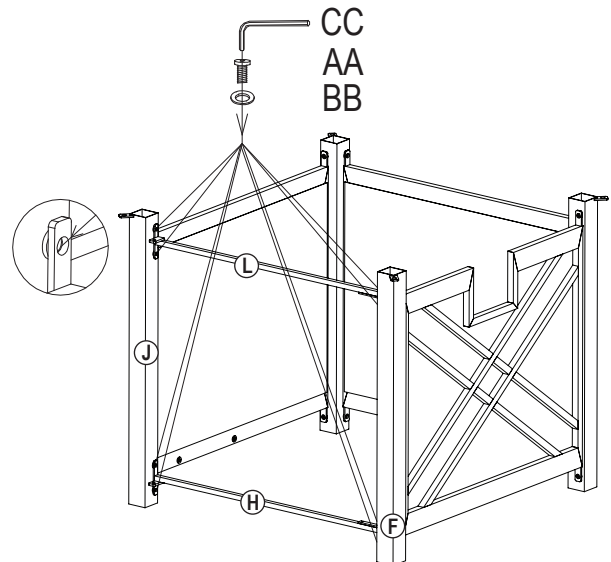

Figure 5
5. Attach upper beam (L) to front-left Leg (J) and front-right leg (F) with bolt (AA) and washer (BB) using hex screw Driver (CC). Attach bottom beam (L) to front-left leg (J) and front-right leg (F) with bolt (AA) and washer (BB) using hex screw driver (CC), (see Figure 5).